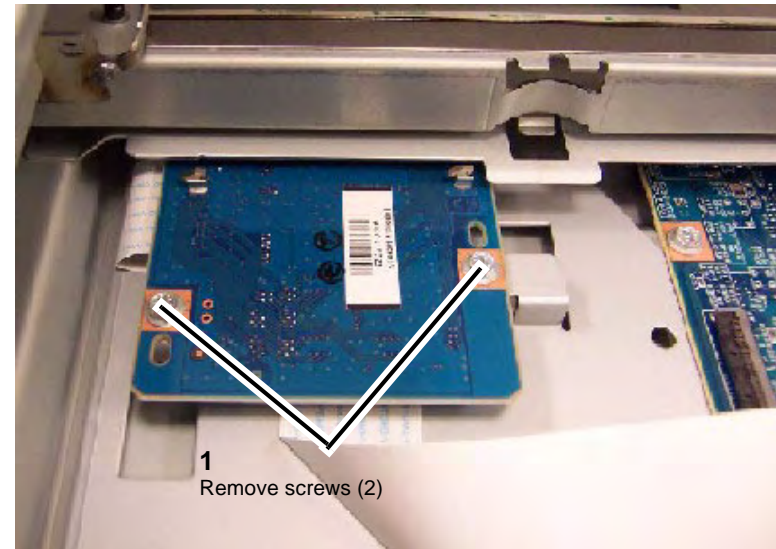

Figure 4 Unfastening the S2X
5. 2. Remove Screws from S2X PWB inside the Scanner (Figure 4).